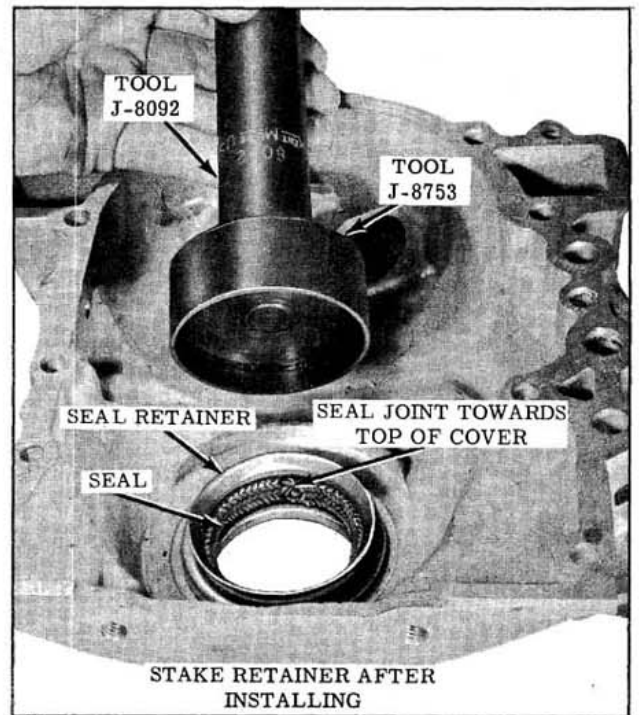

Fig. 3-19 Installing Front Seal
6. Place seal and retainer in cover with seal joint towards top of cover, and install with Tool J-8753 until seated. Stake retainer securely. (Fig. 3-19)